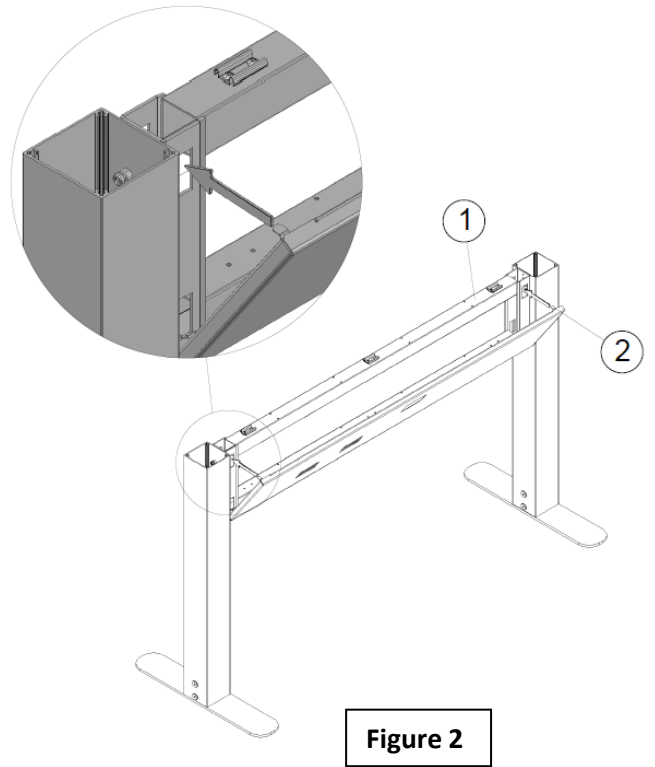

Figure 2
STEP 2: Press the tile down onto the bridge while aligning the tile holes with the electrical receptacles, ensuring that the upper clips snap into the upper holes of the bridge. Reattach the top trim to the top part of the bridge, as shown in Figure 2.
STEP 2: Attach the top trim to the post cap, as shown in Figure 2. Note: Due to the trim connectors, the top trims and caps must be installed in a specific sequence. Begin at one end of the panel run and work your way to the opposite end (refer to Figures 2, 3, 4, and 5).